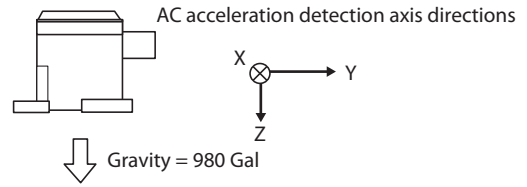

Figure 3A: Z-axis FSG measurement ( $\alpha Z_0$ )
(1) Position this unit as shown in figure 3A.